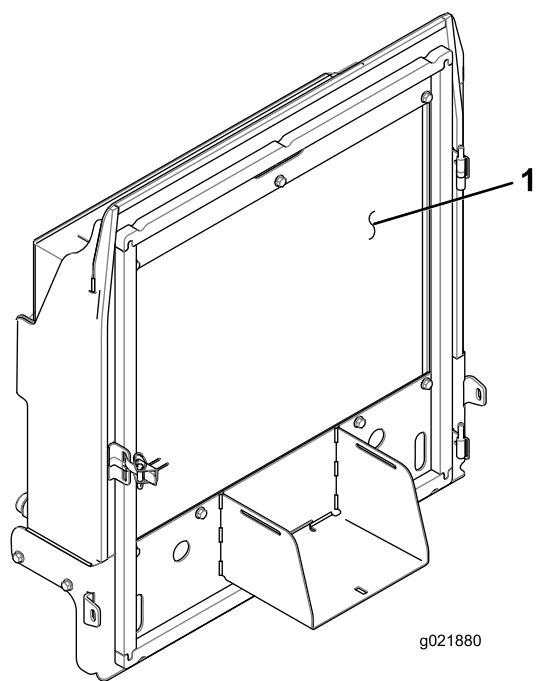

Figure 95
4. Thoroughly clean both sides of the radiator/oil cooler with compressed air (Figure 95).